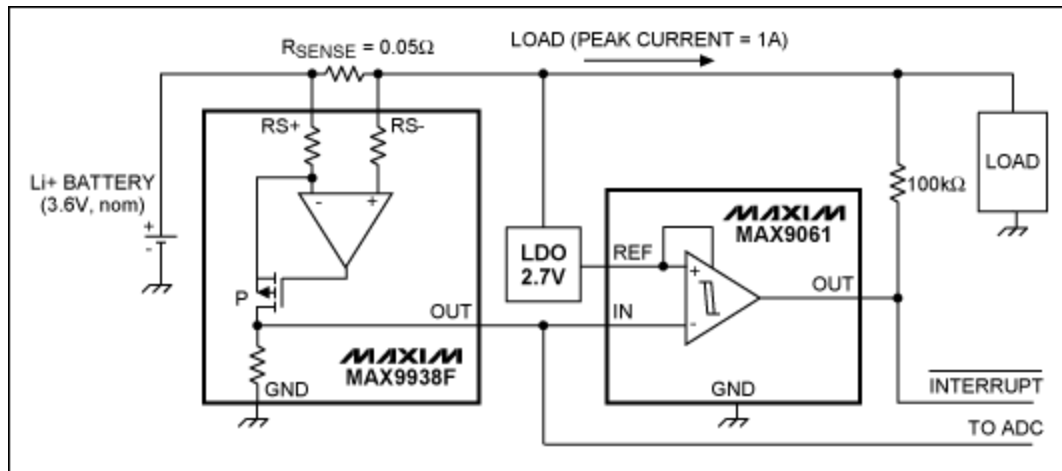

Figure 1. The MAX9938F current-sense amplifier is used to measure battery current, while the MAX9061 comparator is used to detect an overcurrent condition.
**Figure 1** shows the MAX9938 current-sense amplifier. It features an ultra-low quiescent current consumption of less than 1µA (max) at ambient temperature (25°C) and is packaged in a tiny, 1mm x 1mm, 4-bump UCSP (ultra-chip-scale package). Chip scale is an IC packaging technology in which solder balls take the place of pins, allowing the smallest package available.1 The low input-offset voltage of this current-sense amplifier ensures minimal voltage drop across the sense resistor, thus reducing the
A comparator such as the MAX9061 is ideal for implementing overcurrent protection in portable devices (Figure 1). The MAX9061 uses an innovative technology to self-power its internal circuitry from the reference voltage that is applied to its positive input, which can vary from 0.9V to 5.5V. The negative input can go as low as -0.3V and as high as 5.5V; it is independent from the reference voltage and, thus, can be higher. The output is open-drain and requires an external pullup resistor, which in many cases can be internal to the microcontroller. This unique and innovative architecture allows the comparator to fit in a four-terminal package such as an ultra-tiny, 1mm x 1mm, 4-bump UCSP.
As shown in Figure 1, the input of the MAX9061 is connected to the output of the current-sense amplifier, whose maximum voltage of 2.5V corresponds to the peak battery current. The reference can be connected to a low-dropout (LDO) linear regulator with a higher voltage such as 2.7V. When the input of the MAX9061 is higher than the reference, the comparator output is asserted low and an interrupt is generated.
The circuit of Figure 1 was tested with a voltage generator in place of the battery and with the assumption that the 4.2V maximum voltage of a fully charged Li+ battery produces a 1A current through the sense resistor and the load. The voltage generator was decreased all the way down to 2.8V, which represents the condition for battery end of life. **Table 1** reports the measurements, and **Figure 2** shows the gain profile of the MAX9938F. With a two-point measurement, the gain error was measured to be 0.21% for the particular device tested.